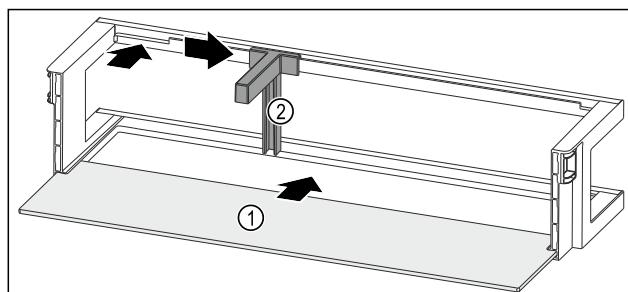

Fig. 152 Door rack with shelf
- ▶ Push the shelf Fig. 152 (1) into the side recesses.
- ▶ Insert the bottle holder Fig. 152 (2) in the recess.
- ▶ Push the bottle holder Fig. 152 (2) to the desired position to the side.